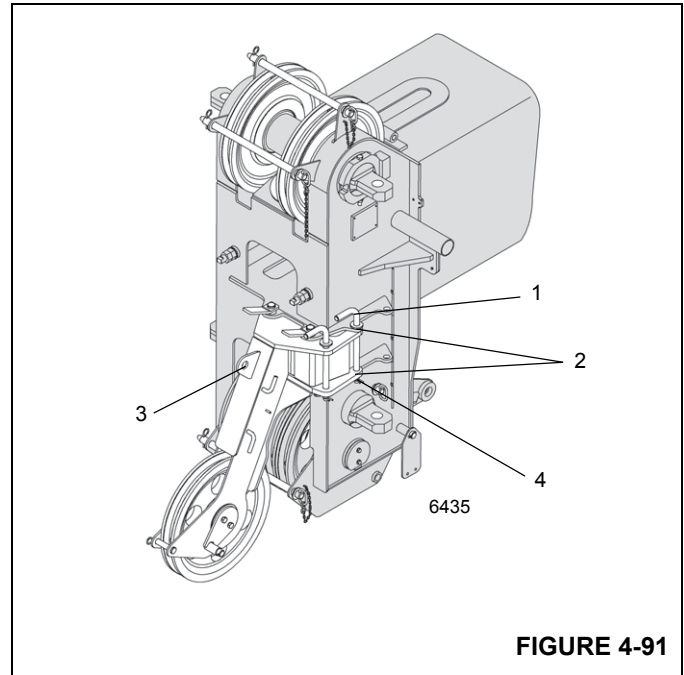

FIGURE 4-91
- Loosen the retaining pin (4) and remove the pins (1) from the bearing point (2) (Figure 4-91).
- Use an auxiliary crane to couple the holding device to the connection eyes (3) on the auxiliary boom nose and lift it to the left onto the main boom head.
- Align the auxiliary single-sheave boom nose so that the bearing point (2) lines up to the front bore holes in the holding device.
- Secure the auxiliary single-sheave boom nose to the holding device using a pin (1).
- Secure the pin (1) with a retaining pin (4).